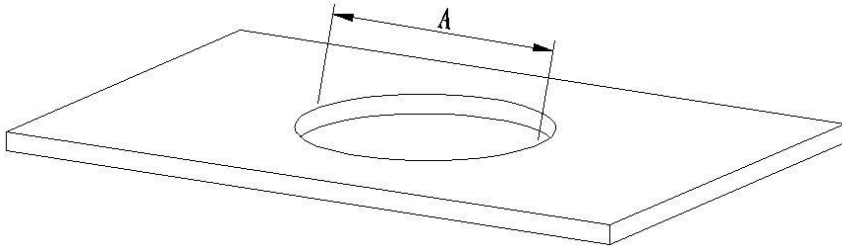

Figure 1
1. Open a mounting hole A with diameter  $\phi 120\text{mm}$  as shown in figure 1: